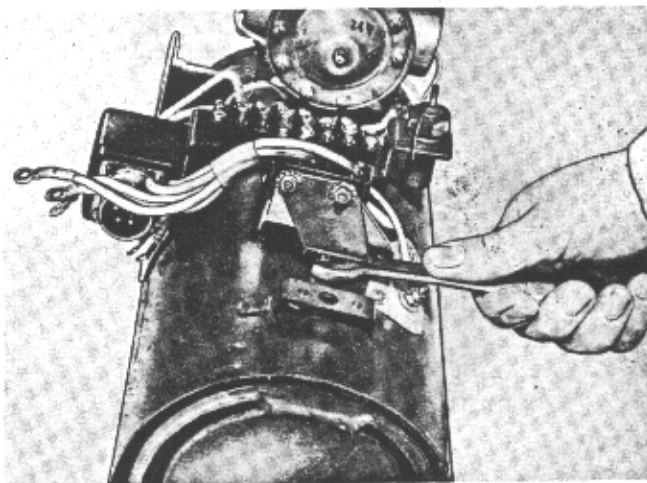

Figure 32
2. Loosen jam nut on expansion tube (Figure 32).